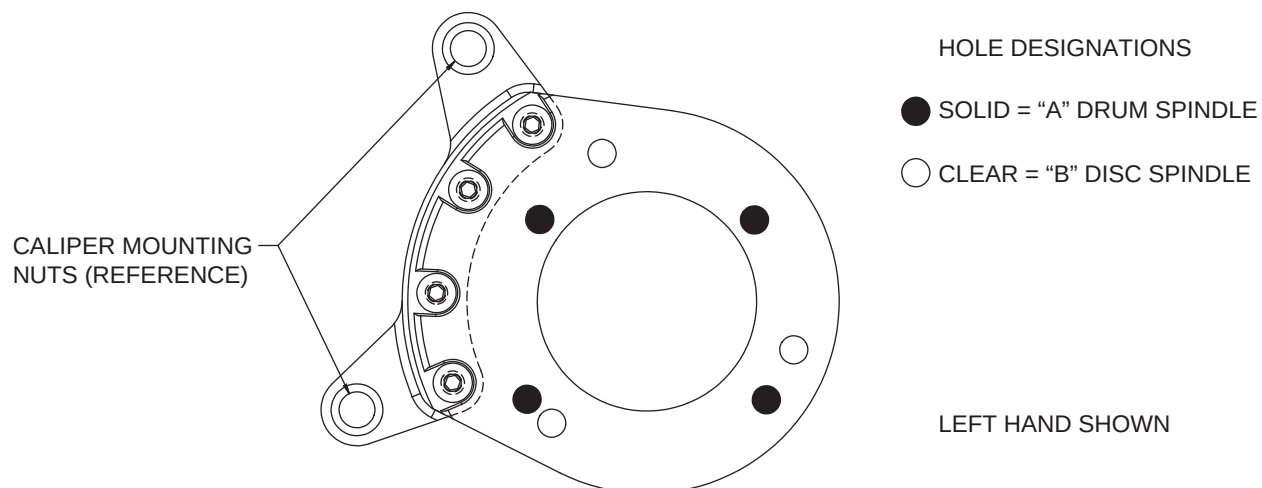
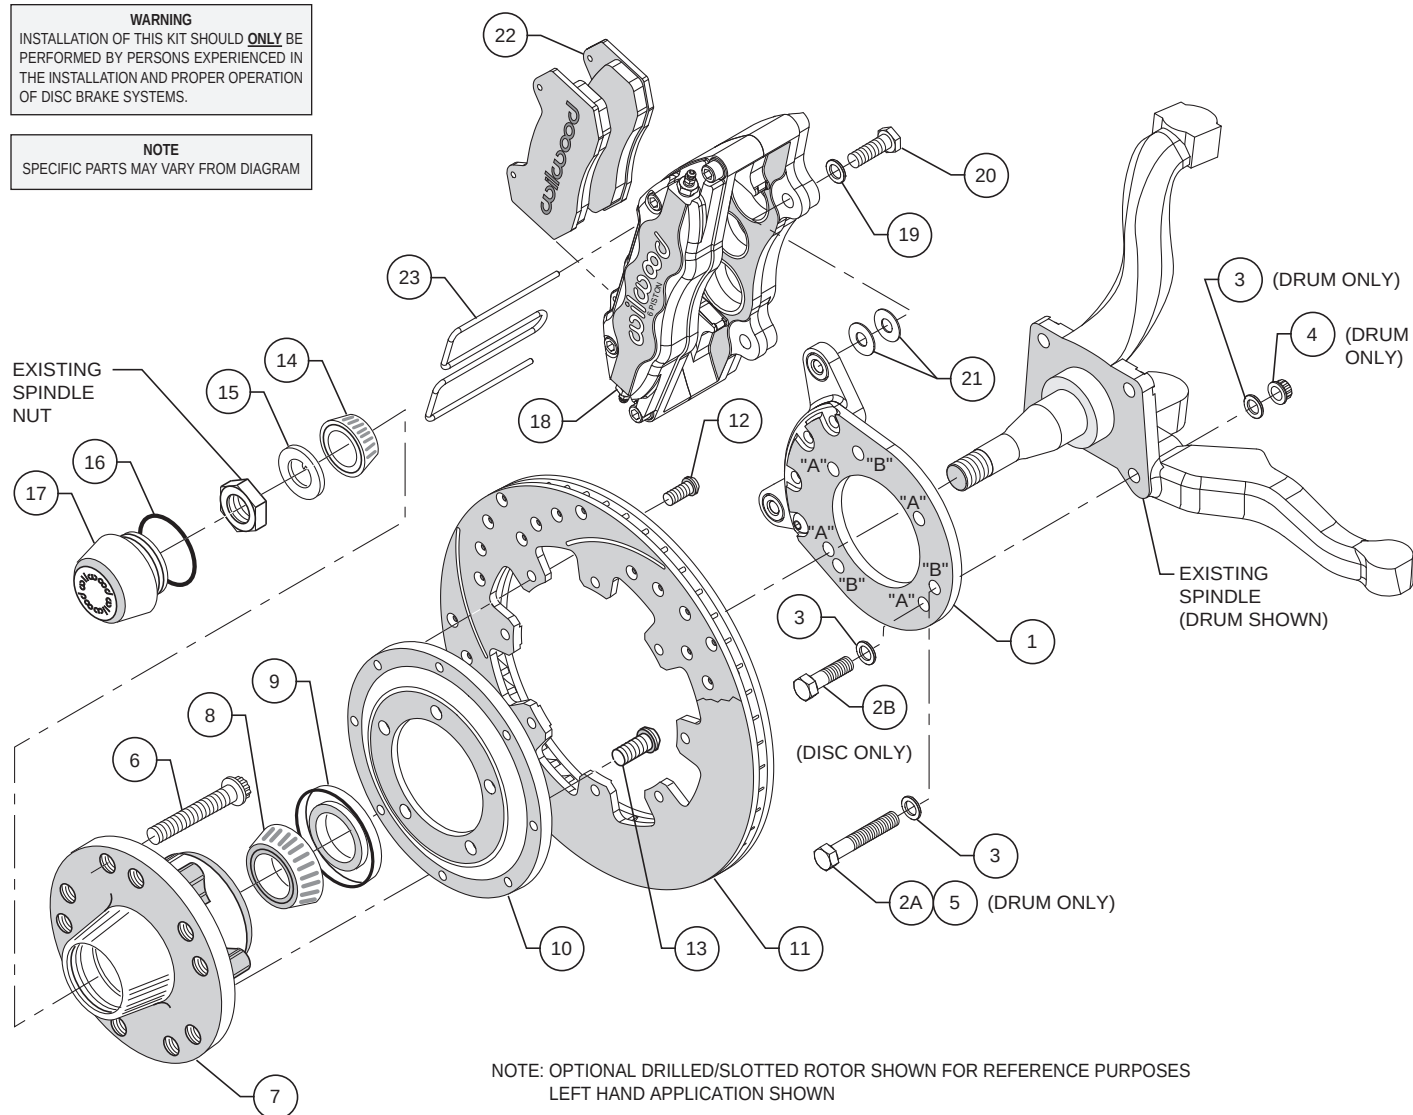
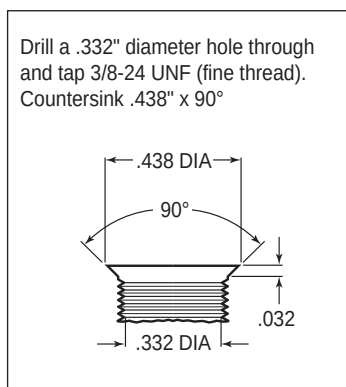
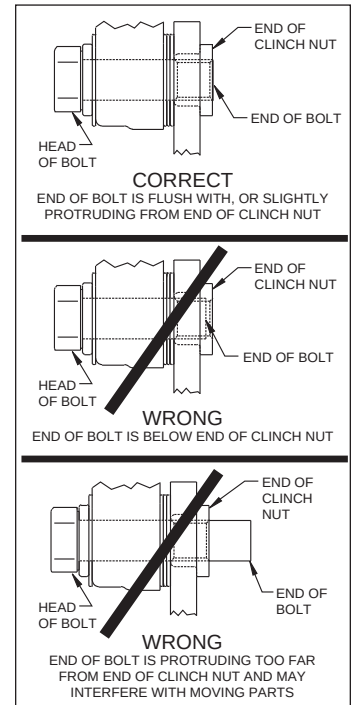

Figure 1. Wilwood Caliper Mounting Bracket
Figure 2. Typical Installation Configuration
Figure 3. Drill and Tap Detail
Figure 5. Clinch Nut Engagement Diagram
This kit has been designed for use with both the disc brake or the drum brake configuration of vehicle. The only difference is in how the Wilwood caliper mounting bracket is installed. The same bracket is used for both configurations; the disc brake version utilizes three mounting holes while the drum brake application uses four mounting holes (see Figure 1). For your convenience we have supplied bolt kits for both applications (see parts list and Figure 2 as necessary). Use the bolt kit that is applicable to your vehicle and disregard the other one.
NOTE: This modification should be performed by a qualified machinist and completed before assembly of the Wilwood disc brake kit begins. Using the caliper mounting bracket as a template (refer to Figure 1 as necessary), locate and verify the three original holes on the spindle that need to be modified. Drill a .332" diameter hole through all three holes, then tap 3/8-24 UNF (fine thread). Countersink the holes to .438" diameter x 90°, as shown in Figure 3.
Assembly Instructions (numbers in parenthesis refer to the parts list, and Figure 2 on the preceding pages): **CAUTION:** All mounting bolts must fully engage clinch nuts. Be sure to check that all bolts are either flush or protruding through flanged side of clinch nut after shimming, Figure 5.
•**NOTE:** This kit uses the same mounting bracket (1) for both the drum and disc brake spindles. The drum version, Photo 1 uses four mounting bolts (designated "A"), while the disc version, Photo 2, uses three (designated "B"). Refer to Figures 1 and 2 for the basic installation position of the bracket and the "A" and "B" reference designations (not physically marked on the brackets).
For Drum Spindle: Align bracket, using the four "A" holes, to the face of the spindle and attach using bolts (2A and 5), washers (3), and lock nuts (4), as shown in Figure 2. Ensure that the flanged heads of the clinch nuts in the bracket are facing outboard, Photo 1. Torque nuts to 30 ft-lb.
For Disc Spindle: Align bracket, using the three "B" holes, to the face of the spindle and attach using bolts (2B) and washers (3), as shown in Figure 2. Finger tighten. Ensure that the flanged heads of the clinch nuts in the bracket are facing outboard, Photo 2. Remove bolts one at a time, apply red *Loctite*® 271 to threads, and torque to 40 ft-lb.
•Install wheel studs (6) into the hub (7), Photo 3. Torque to 77 ft-lb. **NOTE:** There are two five lug patterns in the hub (5 x 4.50 and 5 x 4.75). Ensure the correct hub stud pattern is being used to fit the wheel application.
•Pack the large inner bearing cone (8) with high temperature disc brake bearing grease (available from your local auto parts store) and install into the backside of the hub (7), Photo 4.
•Install the grease seal (9) by pressing into the backside of the hub (7), flush with the end of the hub, Photo 4.
•Orient the rotor (11) and the rotor adapter (10) as shown in Figure 2 and Photo 5. Attach the rotor to the adapter using bolts (12). Using an alternating sequence, apply red *Loctite*® 271 to the threads, and torque to 25 ft-lb.
•Mount the adapter/rotor assembly (10/11) to the hub (7) using bolts (13), as shown in Figure 2 and Photo 6. Using an alternating sequence, apply red *Loctite*® 271 to the threads, and torque to 55 ft-lb.
•Pack the small outer bearing cone (14) with high temperature disc brake bearing grease and install into hub (7). Slide the hub/rotor assembly onto the spindle. Secure using spindle washer (15) and OEM spindle nut, Photo 7. Adjust bearings per OEM specifications. Install saved OEM nut lock (if any) and a new cotter pin (not included).
•Screw dust cap (17) into hub (7), Photo 8. Friction created by the o-ring (16) on the dust cap keeps it from unscrewing. **NOTE:** The O.D. of the existing OEM spindle washer may be larger than the I.D. of the dust cap not allowing it to seat against the hub face. Therefore, use the spindle washer (15) supplied with the kit instead of the OEM washer.
•**NOTE:** Please reference the caution statement at the beginning of the assembly instructions. This kit contains distinct right and left hand calipers that must be mounted in a specific direction, as described below. Mount the caliper (18) onto the caliper mounting bracket (1) using bolts (20) and washers (19), as shown in Figure 2. Initially place two .035" thick shims (21) on each bolt between the caliper and the bracket, Photo 9. Ensure that the caliper is mounted so the largest pistons are at the rotor exit end of the caliper, in relation to the direction of rotor rotation. Temporarily tighten the mounting bolts and view the rotor (11) through the top opening of the caliper. The rotor should be centered in the caliper, Photo 10. If not, adjust by adding or subtracting shims between the bracket and the caliper. Always use the same amount of shims on each of the two mounting bolts. **NOTE:** The end of each bolt must be flush with or slightly protruding from the head of the clinch nut, as shown in Figure 5. If necessary place spare shims between washer (19) and caliper mounting ear to achieve the proper clinch nut engagement. Once the caliper alignment and clinch nut engagement are correct, remove the bolts one at a time, apply red *Loctite*® 271 to bolt threads, and torque to 40 ft-lb.